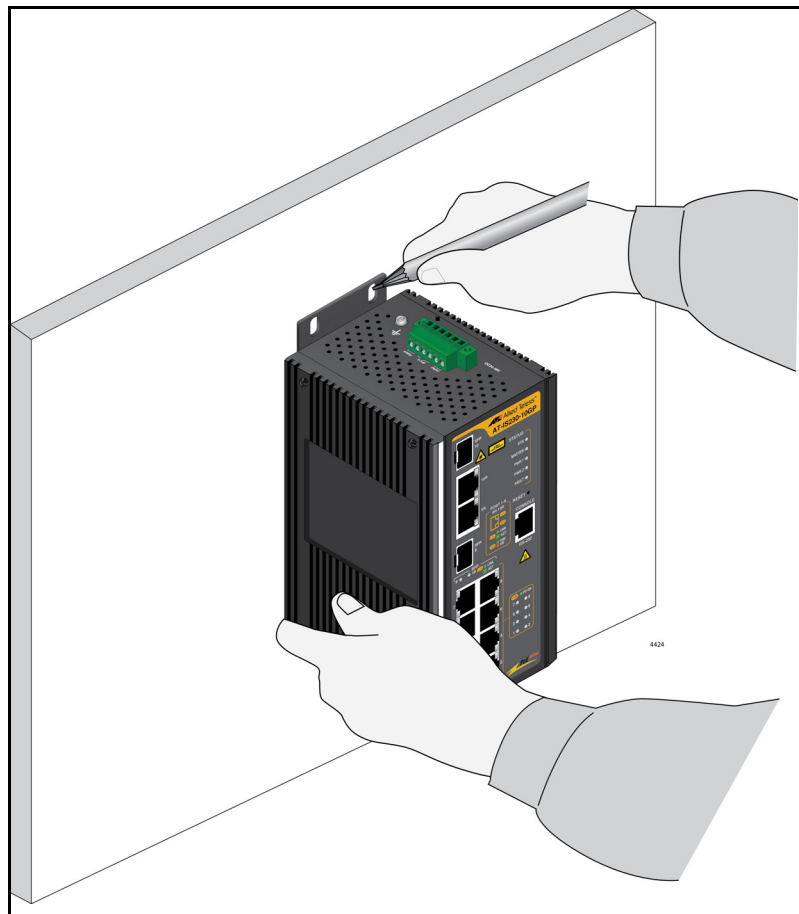

Figure 19. Mark Wall Bracket Hole Locations
4. Hold the switch on the concrete or masonry wall or industrial panel at the selected location for the device while you use a pencil or pen to mark the locations of the four screw holes in the two wall brackets. Refer to Figure 19.
- ❑ The switch must be oriented as shown in Figure 19. You may not install the switch horizontally or upside-down.